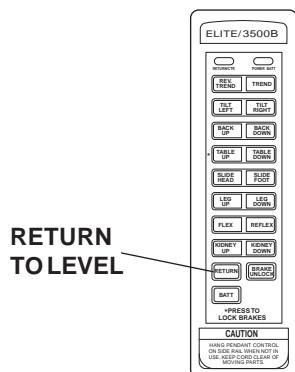

Figure 3-15.
**j. Return To Level.** To return the table top to a level position, press the RETURN button (figure 3-15).